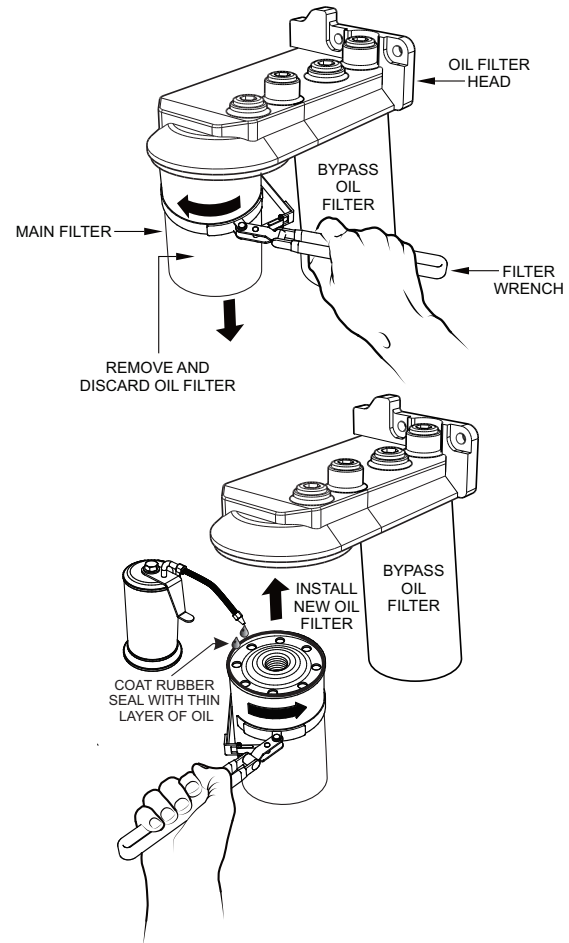

Figure 182. Oil Filter Replacement
1. Clean the area around the **oil filter head** (Figure 182).
2. Using an **oil filter wrench**, remove the **engine oil filter** (Figure 182).
3. Coat the rubber seal (gasket) surface of the new oil filter with clean 15W-40 engine oil (Figure 182).